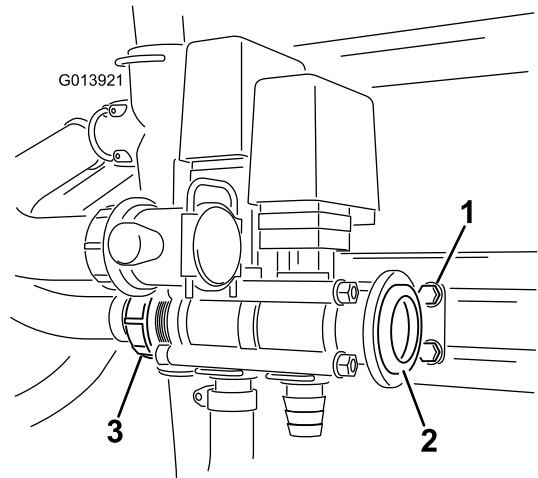

Figure 7
16. Tighten all the bolts in a crisscrossing pattern a little at a time to ensure the O-ring seats properly and to avoid leaks. Make sure the bracket is free to adjust as the valves are mated (Figure 7). The maximum torque is 24-30 in-lbs (271-339 N-cm).
19. Insert the gasket into the adapter and place the loosened worm clamp over the adapter body (Figure 7).